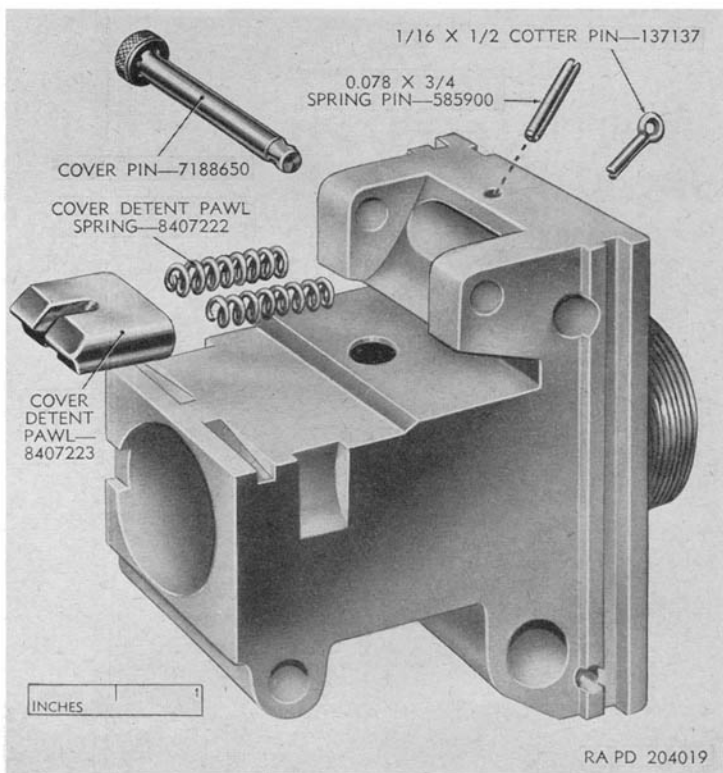

Figure 38. Cover detent pawl group—exploded view.
- (3) To remove lock, drive out the lock retaining pin, as both ends are staked. Slide the lock laterally from the rear guide, being careful not to lose the lock plunger and plunger spring.
j. Cover Detent Pawl Group. To disassemble the cover detent pawl group (fig. 38), follow the instructions given in TM 9-2012. Use cal. .30 cover detent pawl drift 8407288 (fig. 6) to remove the 0.078 x $\frac{3}{4}$ spring pin from the trunnion block and cover detent pawl.